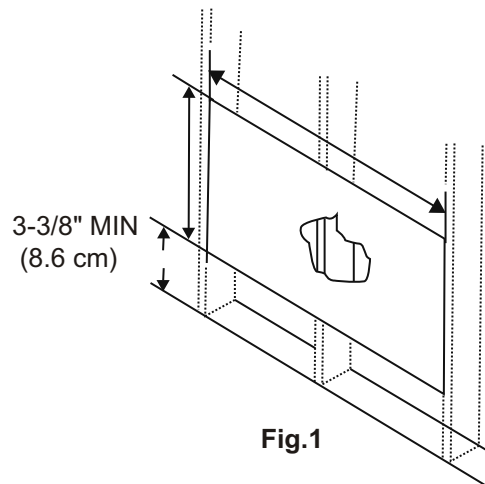
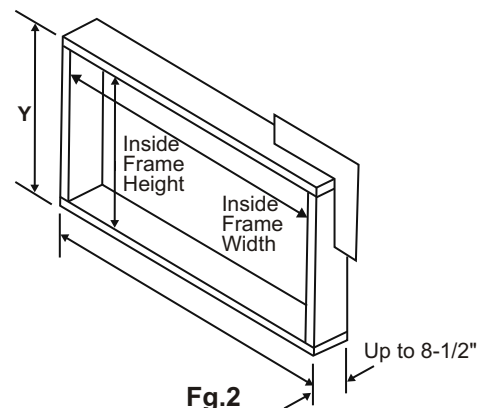

Fig. 1
Fig. 2
(See Fig.1).
These screws will be needed to re-install the front panel (see Fig.2).
3. Measure between inside edges of every other stud as shown in Fig. 1.
Carefully measure and cut an opening with the following dimensions depending on your model. See Fig. 1 and Fig. 2.